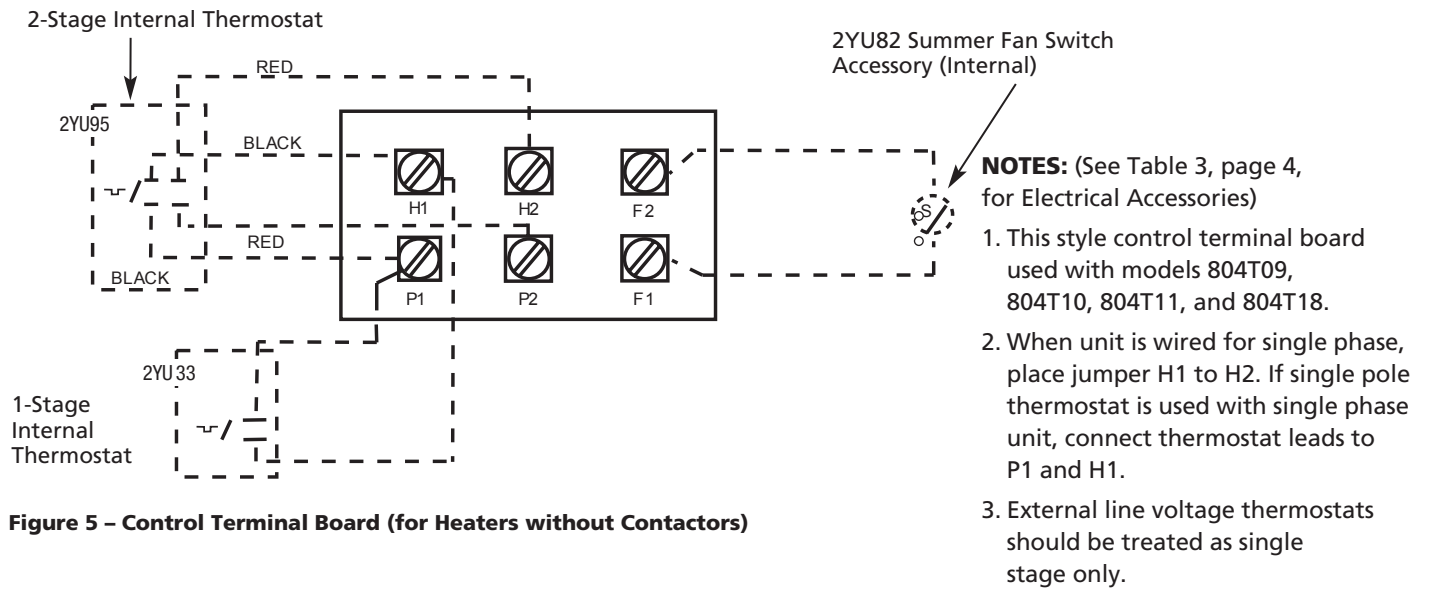

Figure 5 – Control Terminal Board (for Heaters without Contactors)
3. On units not provided with internal contactor (3 kW), refer to Figure 5, page 8, for wiring diagram.